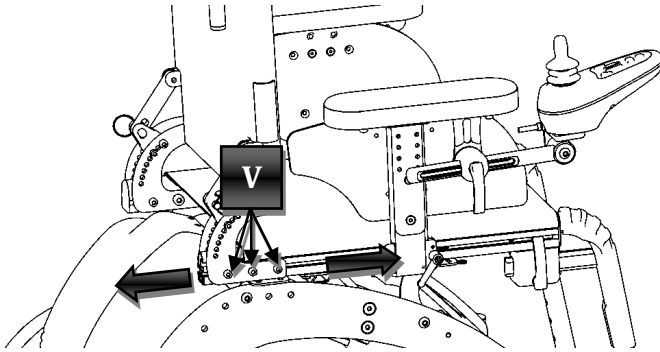

Figure 12
Seeing Figure 12 loosen the screws (V), move the backrest to the desired position and tighten the screws again.